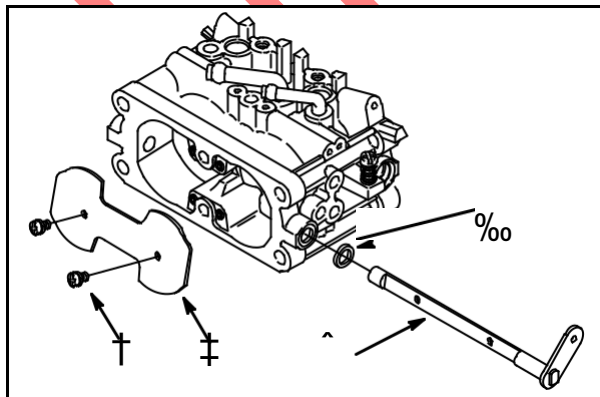

Fig. 69
Install new choke shaft seal (9), **Fig. 69** with sealing lip out.